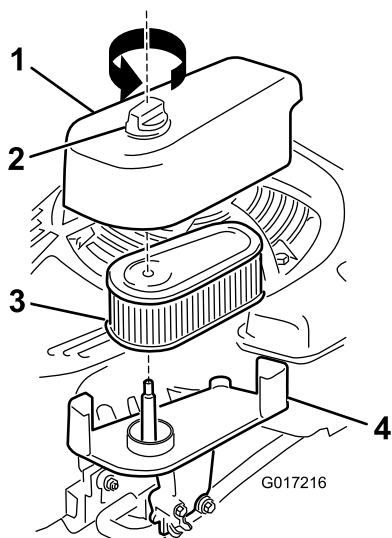

Figure 25
1. Loosen the fastener and remove the air-filter cover (Figure 25).